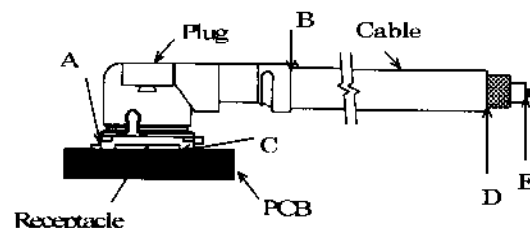

Fig.1
(1) Contact Resistance / 接触抵抗
A. Testing: Solder the receptacle connector to the test board and mate the plug connector together, then measure the contact resistance as shown in Fig.1 by the four terminal method. Apply the low level condition in accordance with MIL-STD-202, Method 307.
A. 試験法: テスト基板にリセプタクルコネクタを半田付けし、プラグコネクタと嵌合させ、Fig. 1のように4端子法にて下記の条件で測定する。MIL-STD-202 試験法 307 に準拠。